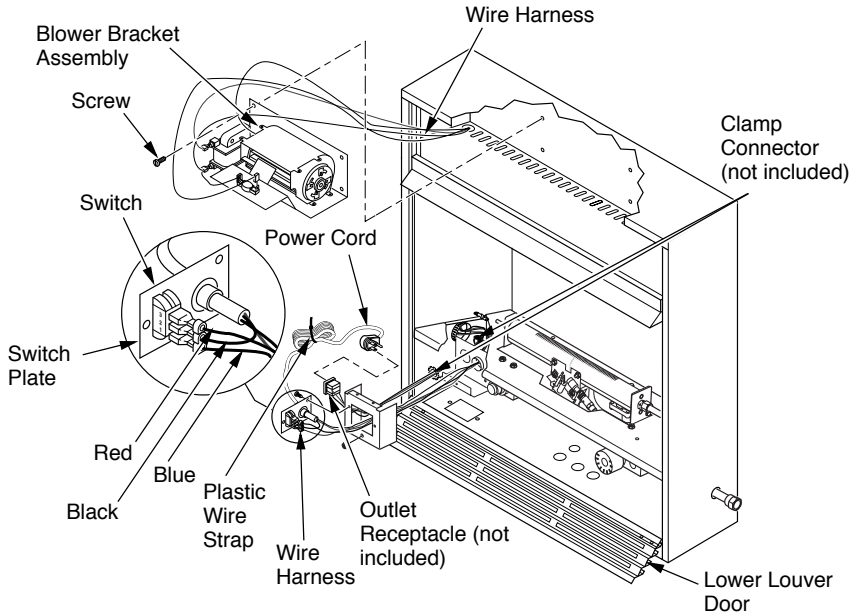

Figure 19 - Installing Blower (Thermostat Unit Shown)
- Plug power cord to the outlet receptacle (not provided) as shown in Figure 19, page 17. Wind extra cable of power cord and tie it up with the plastic wire strap (see Figure 19, page 17). Set the cable bundle between the fan switch box and outer casing, away from the burner.